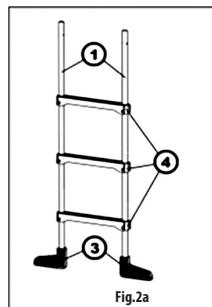

Fig. 2a
Press all plastic treads (4) on the two pairs of stiles (**Fig. 2a**) taking care to maintain the same orientation of all treads.